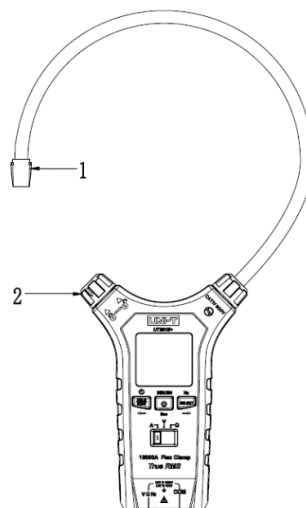

Figure 4.1
- 2) Rotate the lock of the flexible coil to unlock, completely clamp the coil around the conductor to be measured, and then rotate the lock to lock the coil. (Note that the clamp must be fully closed, see Figures 4.1 and 4.2)